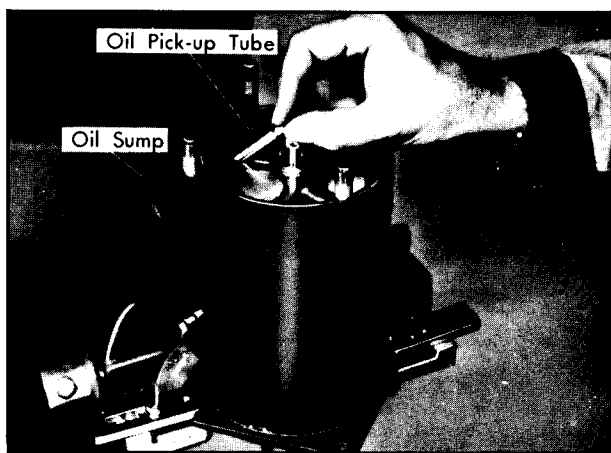

Figure 103—Installing Oil Pick-up Tube
14. Lubricate oil pick-up tube with 525 viscosity refrigerant oil and install into cavity, rotating compressor mechanism to align tube with hole in shell baffle (figure 103).